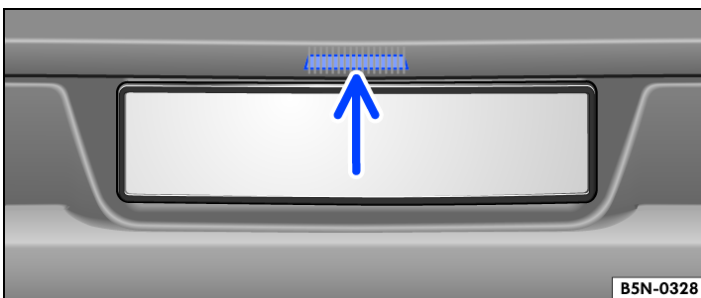

Fig. 1 On the boot lid: button for opening the boot lid.
- Lift the boot lid by the button → Fig. 1.